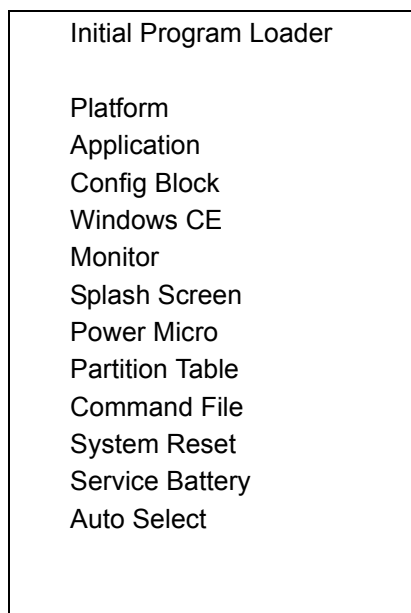

Figure 9-7 Initial Program Loader (IPL) Menu
20. To exit IPL, select the **System Reset** item from the IPL menu (see Figure 9-7 on page 9-10).